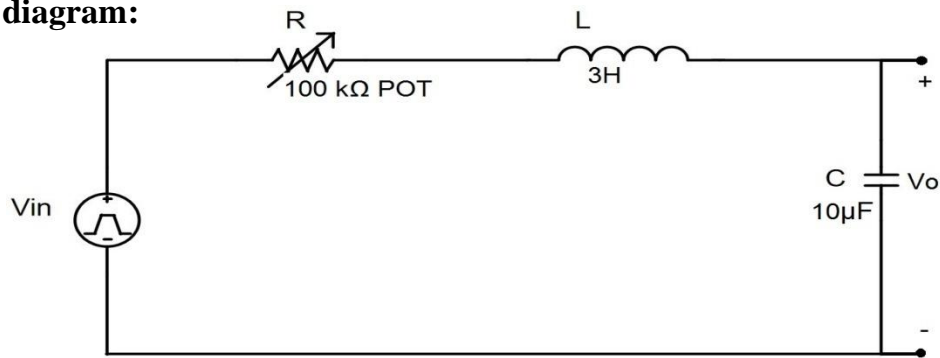

Figure 2.3: A second order (series RLC) circuit for setup.
- 1) Set up the circuit shown in figure 2.3. Provide the input, ground and scope connection from **Digilent Analog Discovery-2** device.